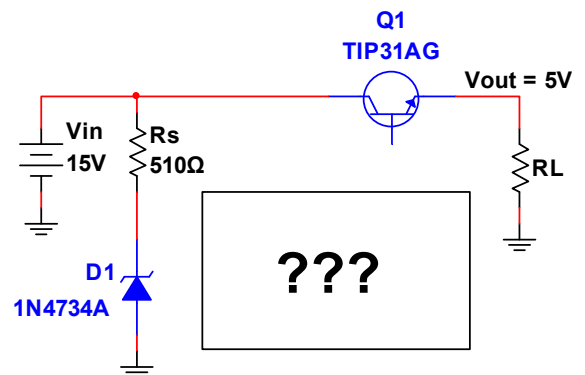

Fig. 1: Figure out how to add an op amp and 10 kohm potentiometer to make a 5V voltage regulator.
- **TASK 1:** Sketch (by hand) a modification of the Lab 1a circuit (see Fig. 1), where you add an op amp and 10 kohm potentiometer to produce a +5V output. Some comments: